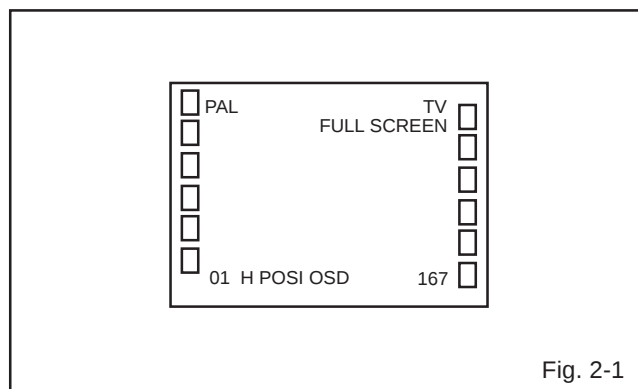

Fig. 2-1
2. Press the VOL. DOWN button on the set and the channel button **(9)** on the remote control for more than 2 seconds to display adjustment mode on the screen as shown in **Fig. 2-1**.
5. Activate the adjustment mode display of **Fig. 2-1** and press the channel button **(05)** on the remote control to select "G DRIVE (N)".
7. Adjust the VOL. UP/DOWN button on the remote control to whiten the G CUT OFF(N), B DRIVE(N), B CUT OFF(N), G DRIVE(C), G CUT OFF(C), B DRIVE(C), B CUT OFF(C), G DRIVE(W), G CUT OFF(W), B DRIVE(W) and B CUT OFF(W) at each step tone sections equally.
3. Activate the adjustment mode display of **Fig. 2-1** and press the channel button **(35)** on the remote control to select "CONTRAST MAX".
9. Activate the adjustment mode display of **Fig. 2-1** and press the channel button **(35)** on the remote control to select "CONTRAST MAX".
15. Activate the adjustment mode display of **Fig. 2-1** and press the channel button **(35)** on the remote control to select "CONTRAST MAX".
20. Activate the adjustment mode display of **Fig. 2-1** and press the channel button **(35)** on the remote control to select "CONTRAST MAX".